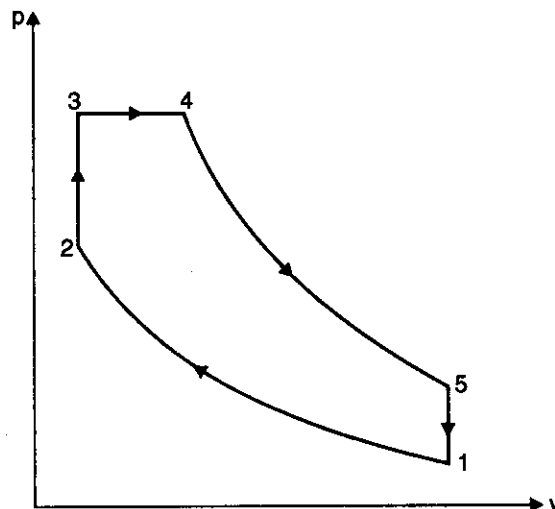

Fig. 13.23. Dual cycle.
**Solution.** Refer Fig. 13.23. Given :  $T_1 = 27 + 273 = 300 \text{ K}$  ;  $\frac{p_3}{p_1} = 70$ ,  $\frac{v_1}{v_2} = \frac{v_1}{v_3} = 15$